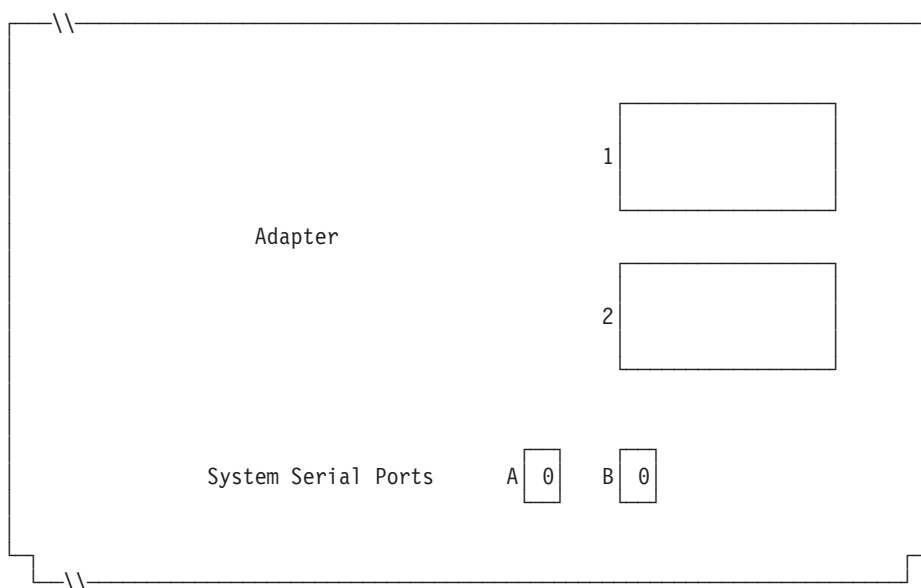

Figure 98. Right Side of Rear of 4694-0x4/1x4 Point-of-Sale Terminal
6. If terminal applications use an asynchronous port, write the port number on Figure 98. Use a 0 if the terminal does not use a port. Valid port numbers are 1, 2, 3, 4.